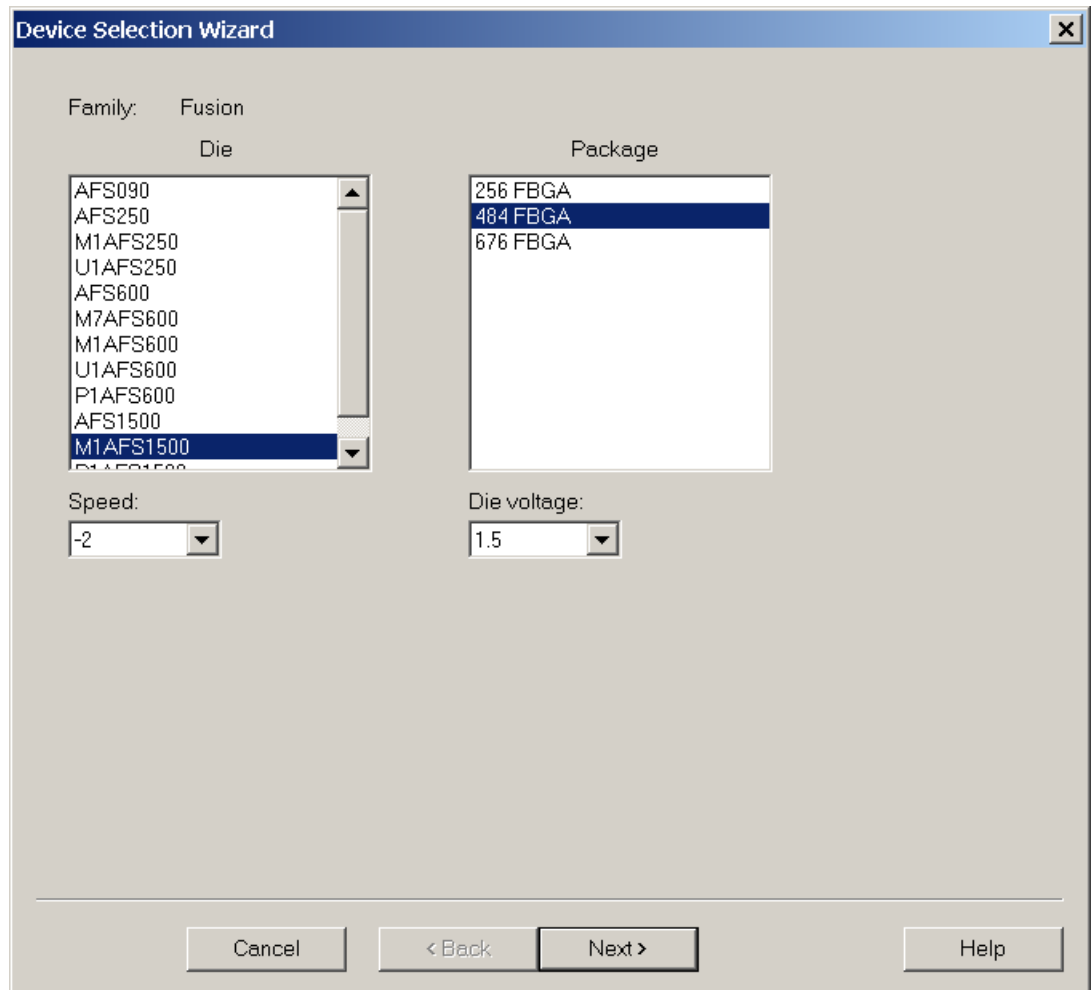

Figure 4-6 • Device Selection Wizard
- When the device selection wizard comes up (Figure 4-6), select **Next** twice and then **Finish** to set the default selection.